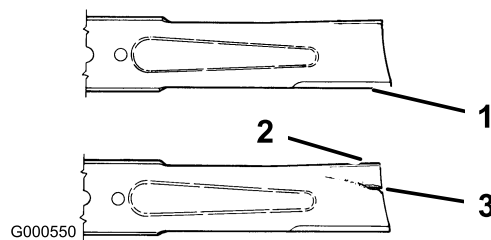

Figure 38
1. Inspect the cutting edges (Figure 38). If the edges are not sharp or have nicks, remove and sharpen the blades; refer to Sharpening the Blades.
2. Inspect the blades, especially the curved area (Figure 38). If you notice any damage, wear, or a slot forming in this area (item 3 in Figure 38), immediately install a new blade.